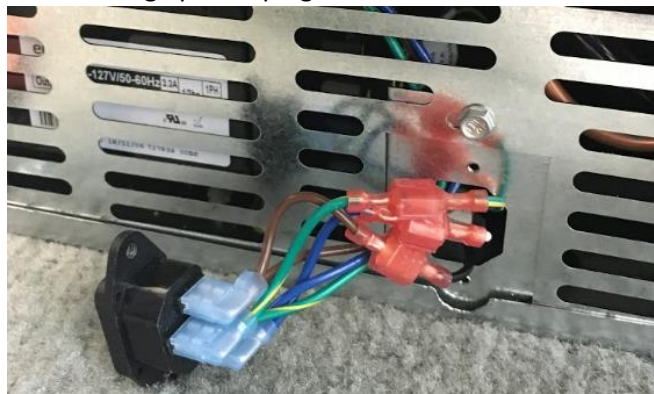

Figure 84: Main Power Plug.
- ii. Remove two screws from the fridge power plug to check the connections to the plug as seen in Figure 84.